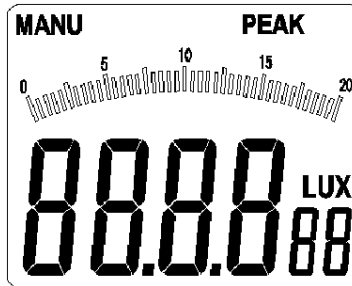

Figure 3-1-2B
- Press and hold “REL/PEAK” key for one second, the device will enter the peak value measurement mode, “PEAK” LCD will appear on the top right of the LCD screen, and at the same time, “MENU” will appear on the top left of the LCD screen (as shown in figure 3-1-2B);